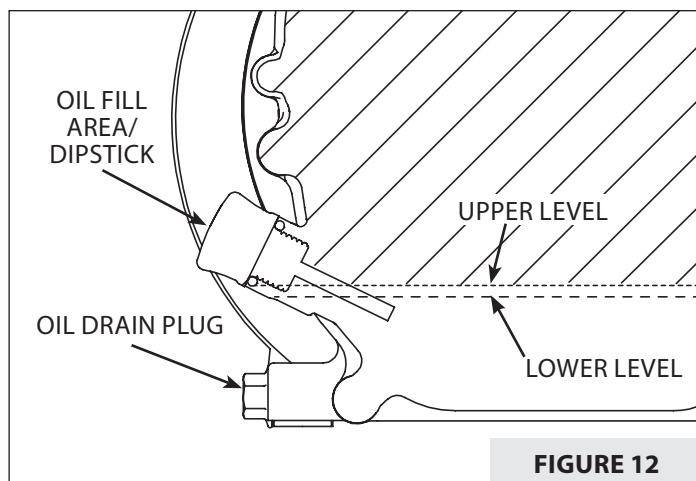

FIGURE 12
2. Remove oil drain plug and empty oil into suitable oil container. Dispose of oil properly. **SEE FIGURE 12.**
3. Reinstall drain plug. Remove dipstick (if applicable) or oil fill cap. **SEE FIGURE 12.**
4. Fill with appropriate oil to **FULL** or top line of dipstick; otherwise to top thread of oil fill hole. **SEE FIGURE 12.**